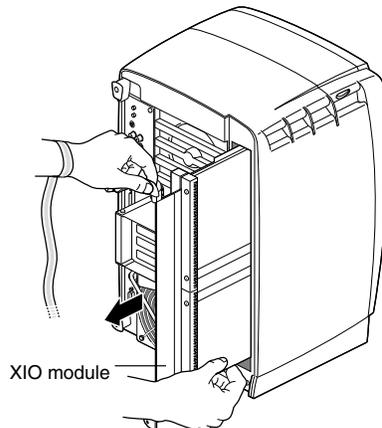

Figure 9 Removing the XIO Quad-Module
3. Grasp the XIO Quad-Module along its length, and support the base of the module as you remove it from the chassis, as shown in Figure 9.